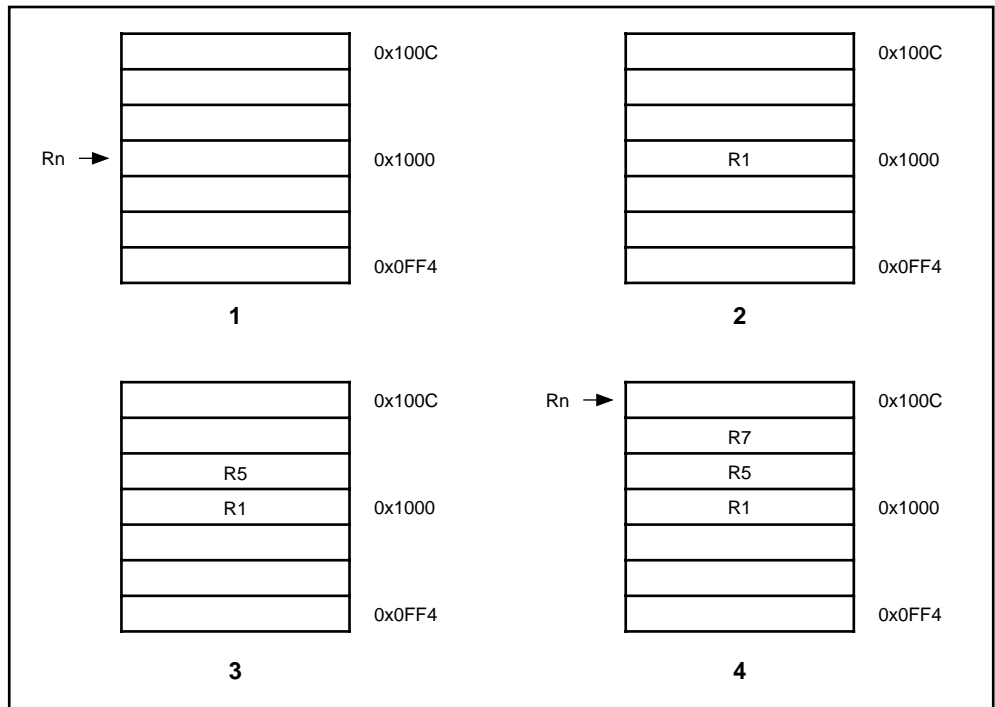
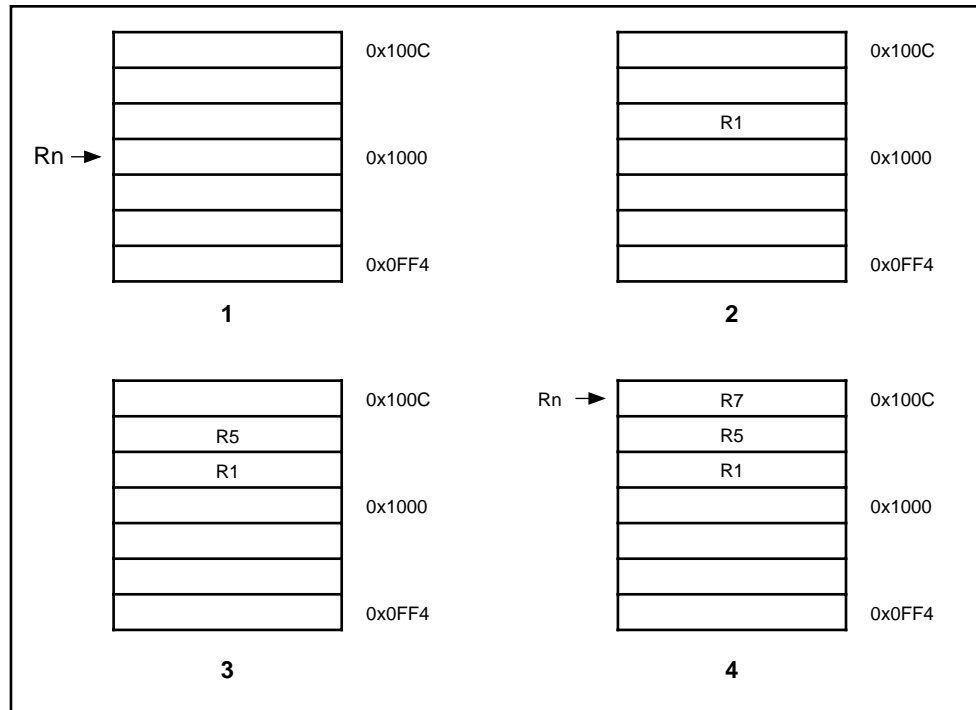
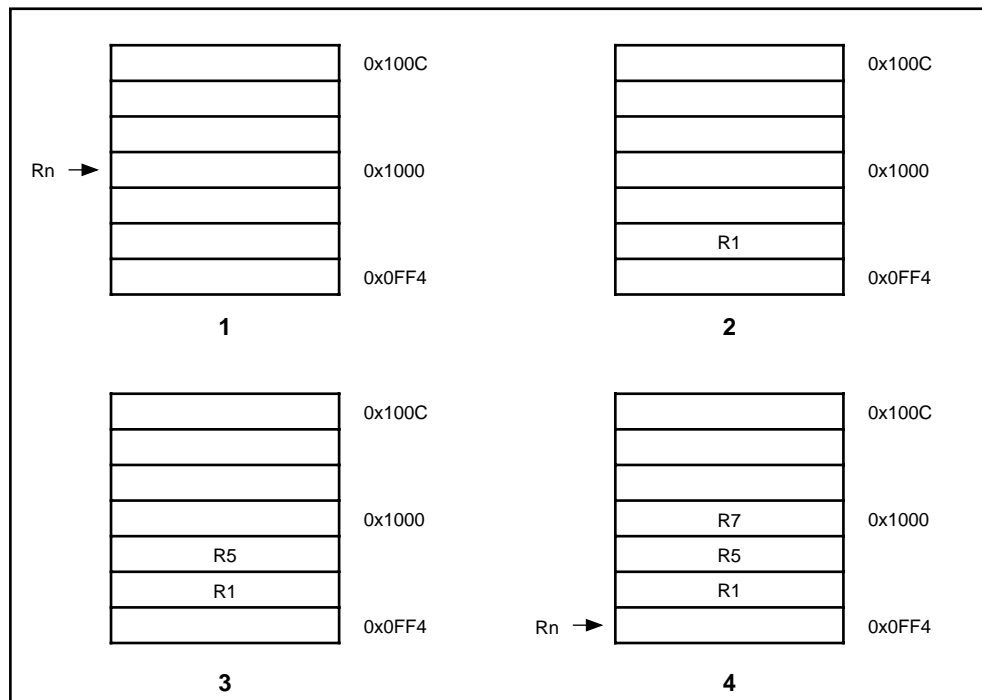
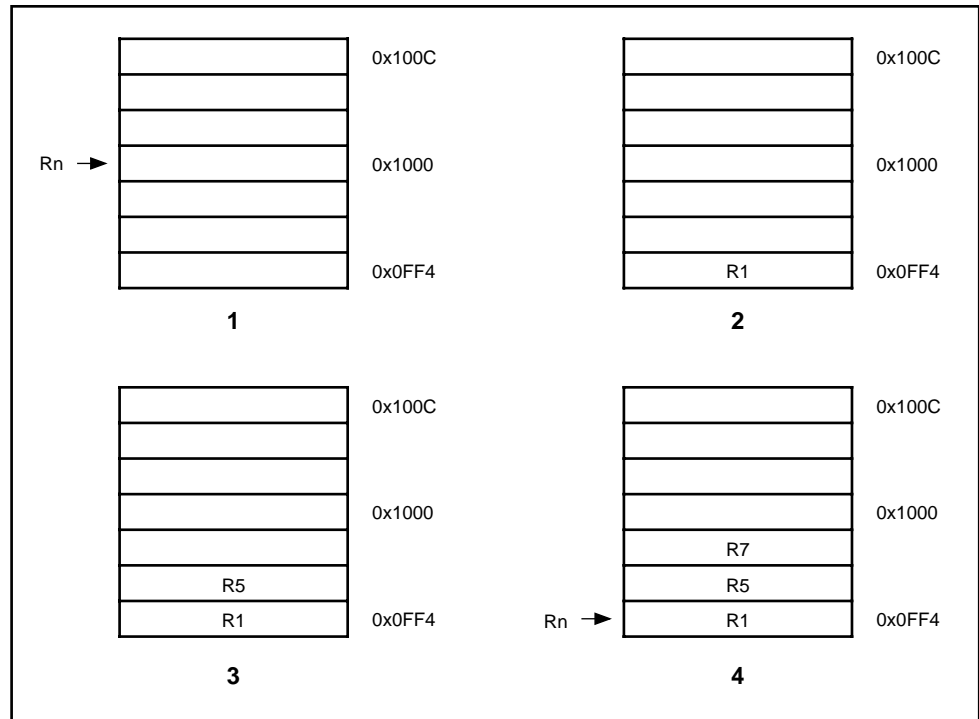

Figure 4-17: Post-increment addressing
Figure 4-18: Pre-increment addressing
Figure 4-19: Post-decrement addressing
Figure 4-20: Pre-decrement addressing
The transfer addresses are determined by the contents of the base register (Rn), the pre/post bit (P) and the up/down bit (U). The registers are transferred in the order lowest to highest, so R15 (if in the list) will always be transferred last. The lowest register also gets transferred to/from the lowest memory address. By way of illustration, consider the transfer of R1, R5 and R7 in the case where Rn=0x1000 and write back of the modified base is required (W=1). ◀Figure 4-17: Post-increment addressing, ◀Figure 4-18: Pre-increment addressing, ◀Figure 4-19: Post-decrement addressing and ◀Figure 4-20: Pre-decrement addressing show the sequence of register transfers, the addresses used, and the value of Rn after the instruction has completed.